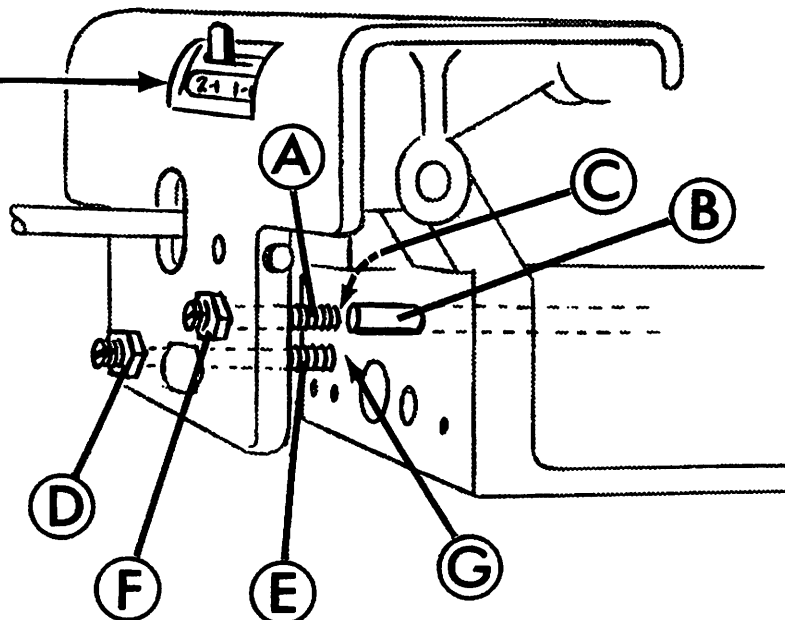

FIG. 5
ON THE SKIP STROKE, stop when the eye of the needle is at the rib (Fig. 1). At this point, the gap between the Compensating Skip Stitch Screw (Fig. 5, A) and the Push Rod (B) should be .018 (C). (In the absence of a gauge, .018 is about 5 times the thickness of average letterhead paper.) This adjustment is made by loosening Lock Nut (F), adjusting screw (A) so gap at (C) is .018. Keep screw in place with screwdriver and secure Lock Nut.